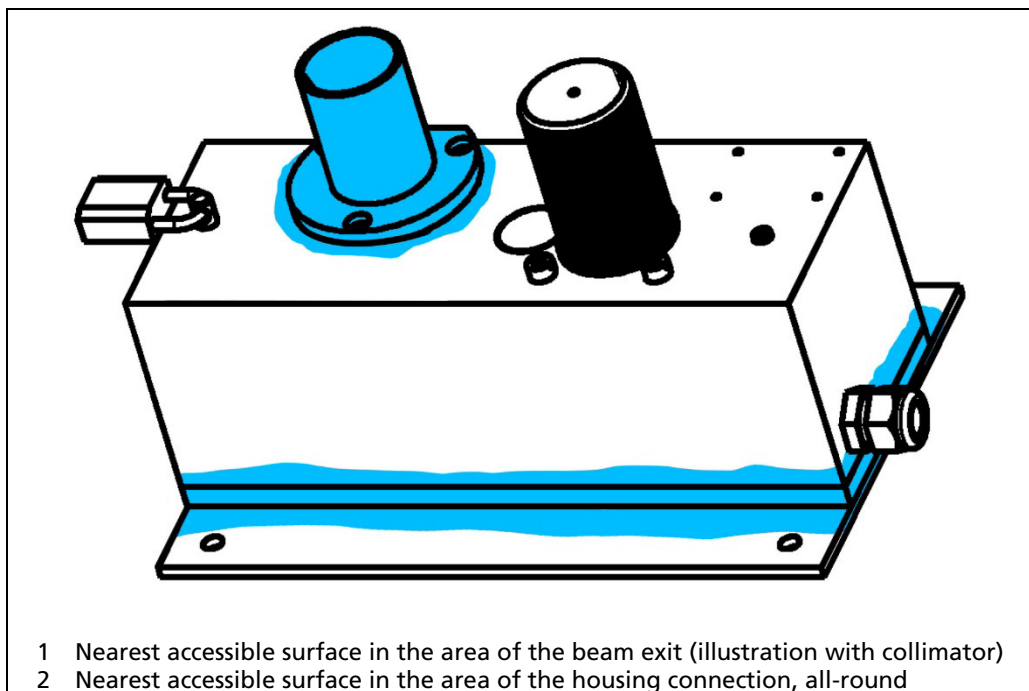

Fig. 10 Nearest accessible surface for leak test
- the area marked in Fig. 10.
1. Carry out the contamination test on the marked test area in Fig. 10.